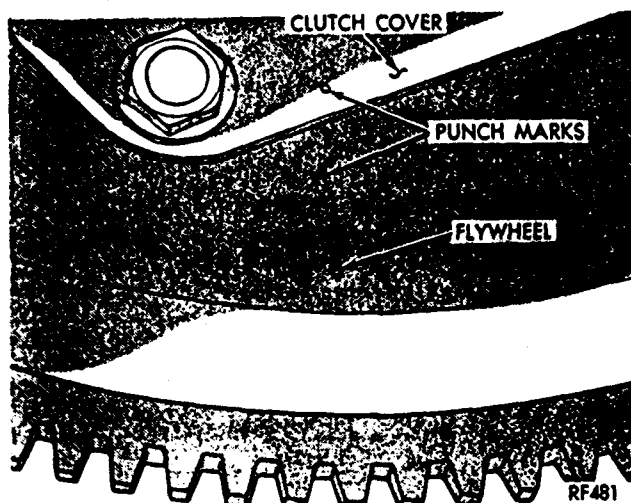

Fig. 5—Clutch and Flywheel Punch Marking
CAUTION: If there is interference between brake shoes and drum, remove hole cover and using screwdriver and light piece of metal, release brake shoes (Fig. 5).
(6) Mark clutch cover and flywheel (Fig. 5) to maintain their same relative positions when reinstalling clutch assembly.
(7) Loosen and back off clutch cover attaching bolts, 1 or 2 turns at a time, in succession, to avoid bending cover flange.
(8) Remove clutch assembly and disc from clutch housing.